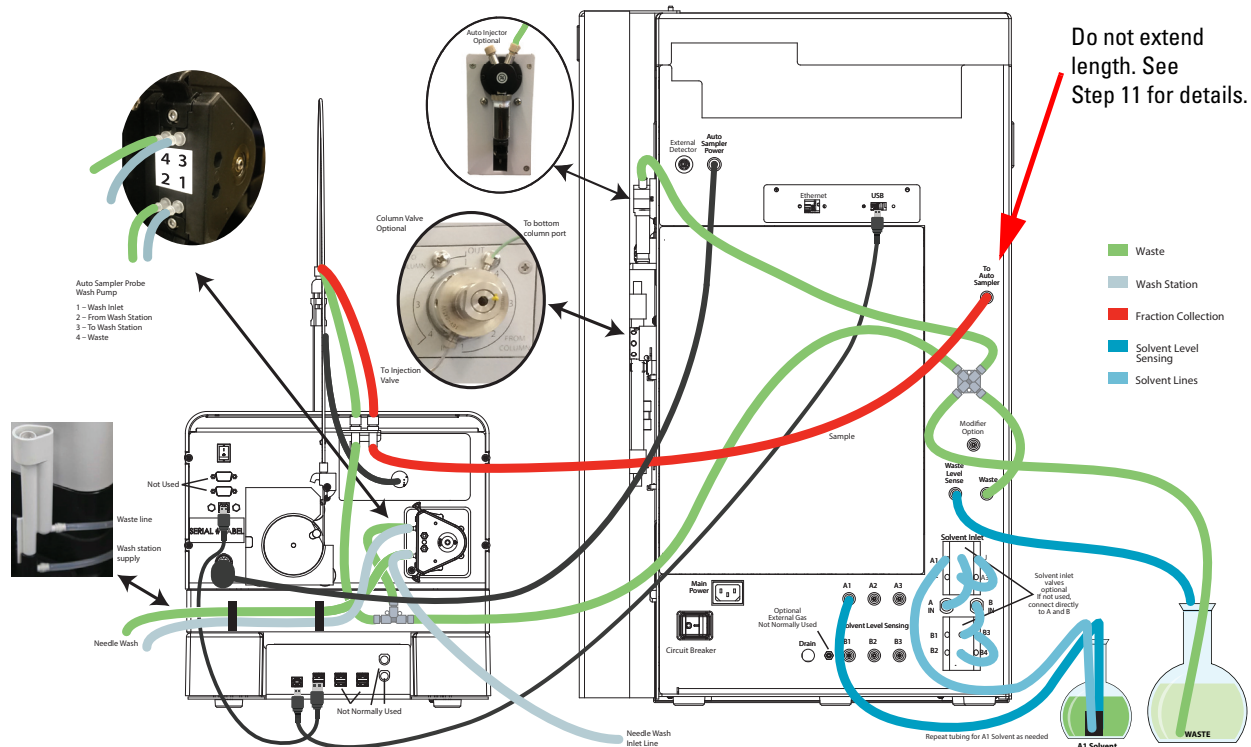

Figure 2-22 Tubing diagram of the AutoSampler connected to the ACCQPrep
- Check the USB cable connection from ACCQPrep to the square USB connector along the rear, bottom edge of the AutoSampler (Figure 2-22).